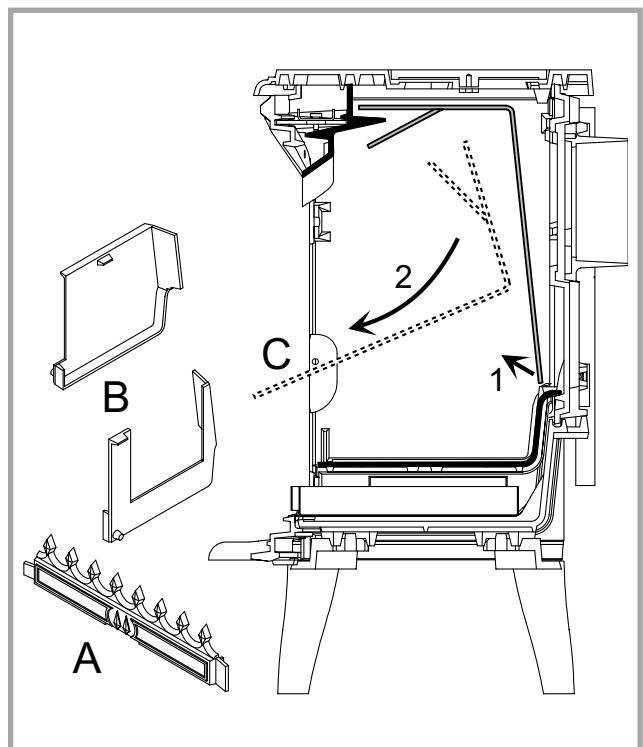

Figure 7 - Removing the flue baffle
- Remove the retainer fuel (fig. 8, p. 7), the two side bricks # 23 and 24 p. 15) and the flue baffle (fig. 7, p. 6).
First remove the retainer grate (fig. 8), the two side bricks and the flue baffle (fig. 7).